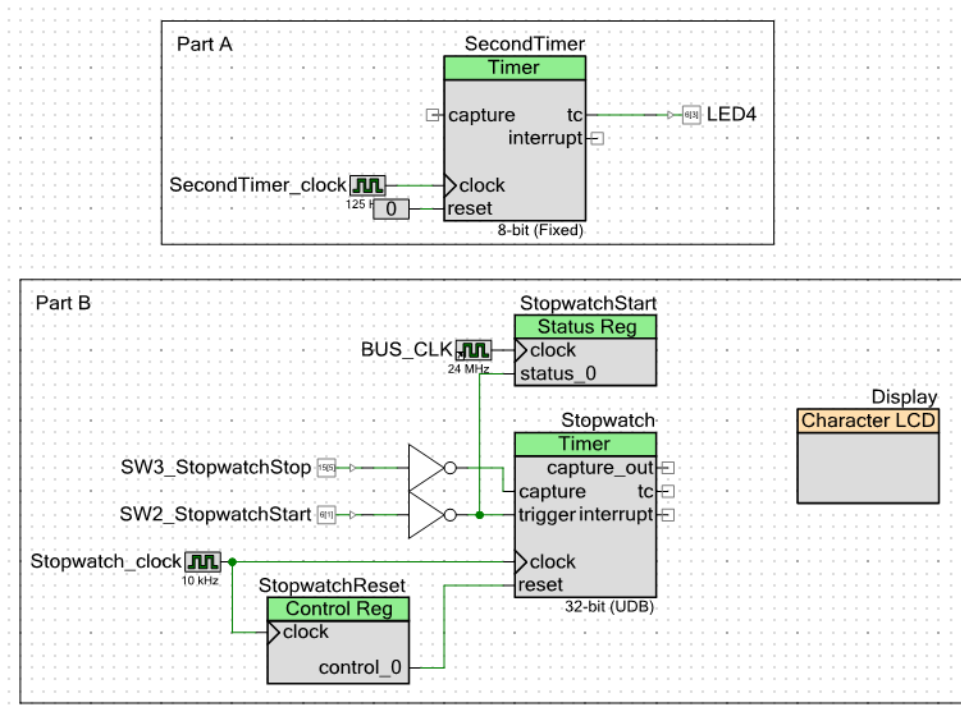

Figure 6: Final schematic
14. The schematic should look like Figure 6.